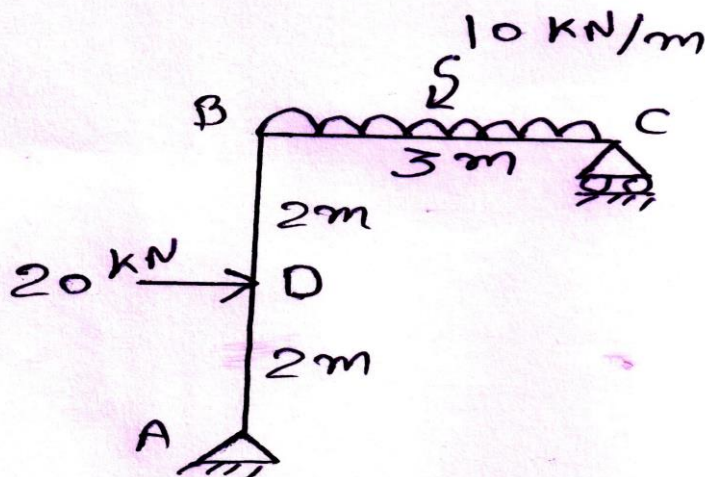

figure: 2 Q-4 (a)
- Q.4** (a) Draw Shear force and bending moment diagram for a frame shown in figure 2. **07**